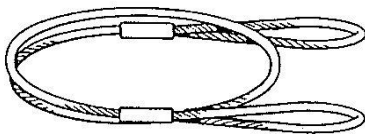

Figure 3: Cable Sling
- 3) Cable sling approximately 10 feet long and adequate size for the loads involved (figure 3).